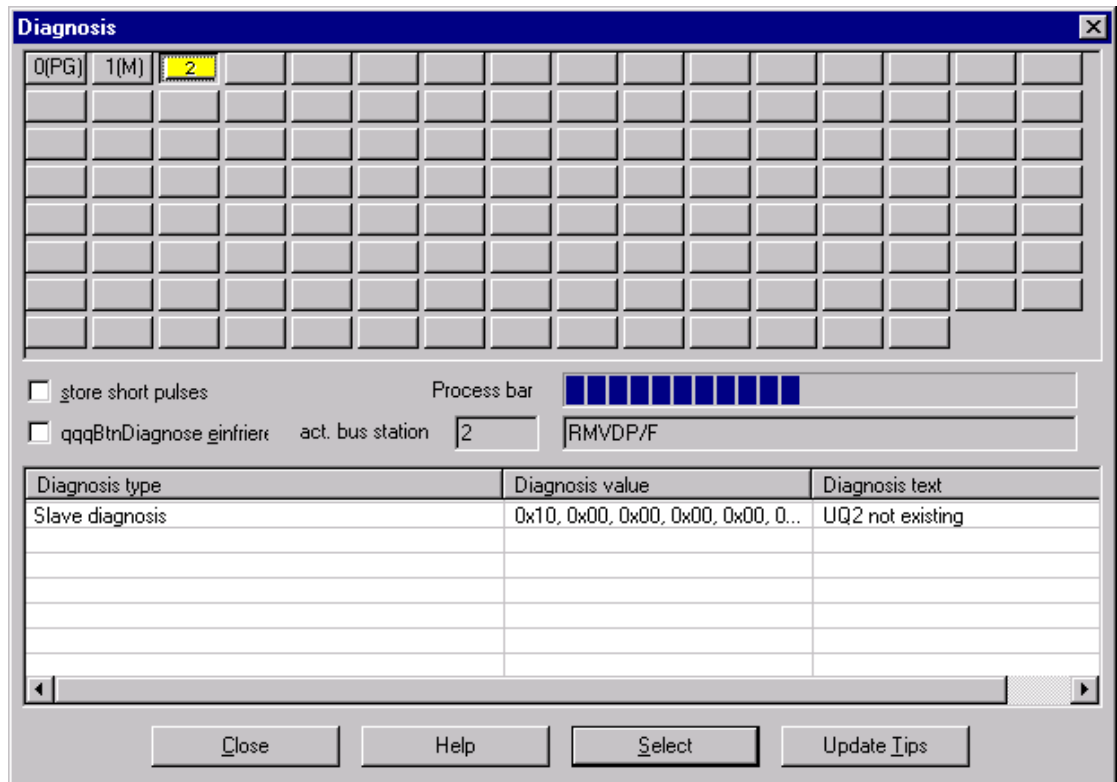

Figure 4-7: Diagnostic window with voltage error
*See figure 4-7*
In the example in figure 4-7, the slave at address 2 reports an error and address field 2 has a yellow background. The message shows an equipment-related diagnosis: "Low voltage UQ1" and "UQ2 not existing".